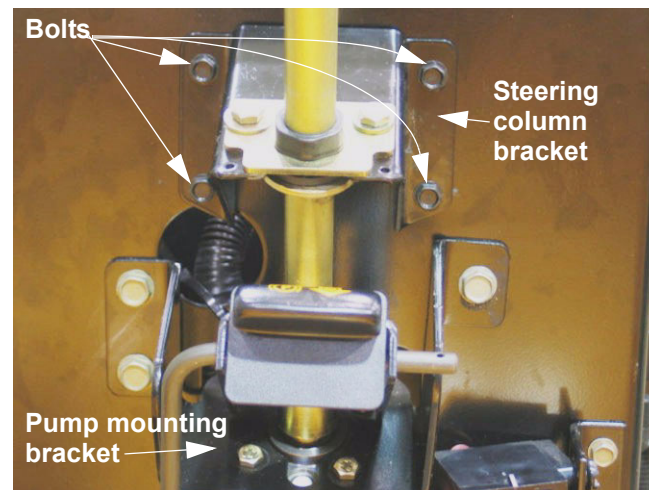

Figure 3.5
- 3.5. Remove the four bolts that hold the steering column bracket to the pedestal using a 3/8" wrench. See Figure 3.5.